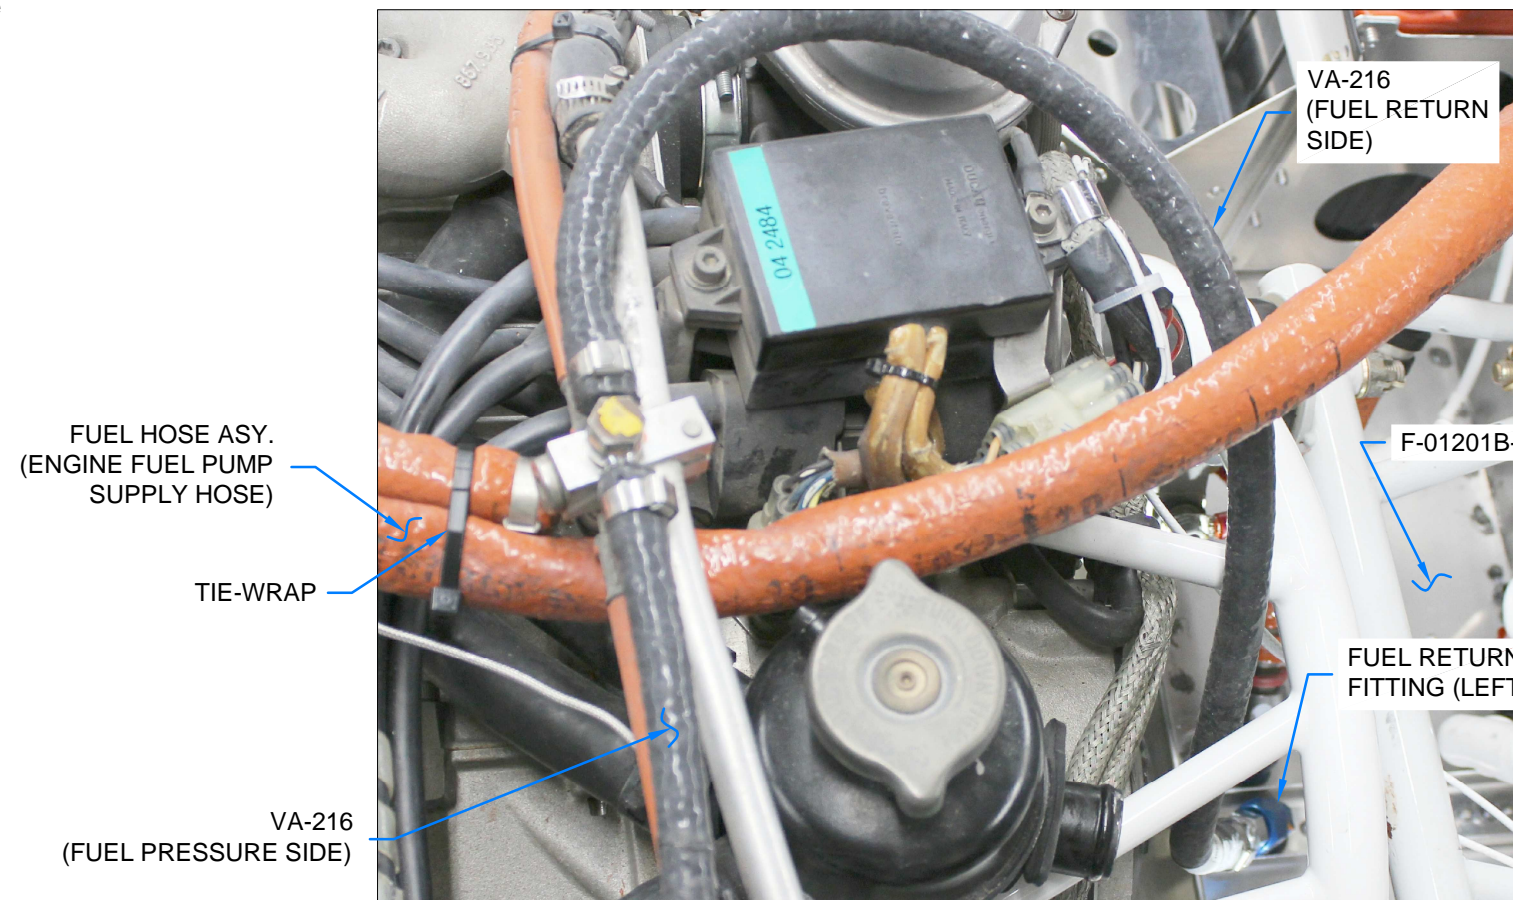

FIGURE 2: CONNECTING FUEL RETURN & FUEL PUMP SUPPLY HOSES
Step 2: Slip the FF-01224 Interconnect Hose over the fuel pump drain fitting and secure using the hose clamp shown in Detail A of Figure 2.
Step 3: Place cushioned clamps onto the engine oil return tubes as shown in Figure 2 and Detail Views B and C. Close clamps using safety wire (not shown) to aid installation.